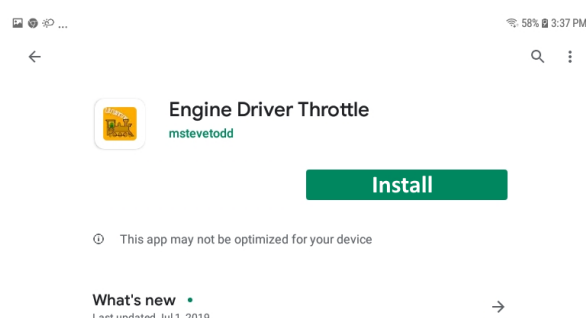

Figure 16 The Engine Driver Throttle detail page in the play store
- d. Tap the Install button (Figure 16). The app downloads and installs on your device. Do not open the app until after the next steps.